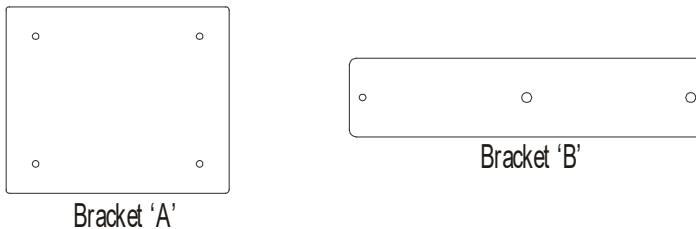

Figure 13
- Insulate drain lines located inside the building or above a finished living space to prevent sweating. The installation must include a "P" style trap that is located as close as is practical to the evaporator coil. See Figure 13 for details of a typical condensate line "P" trap.
NOTE: Units operating in high static pressure applications may require a deeper field constructed "P" style trap than is shown in Figure 13 to allow proper drainage and prevent condensate overflow..